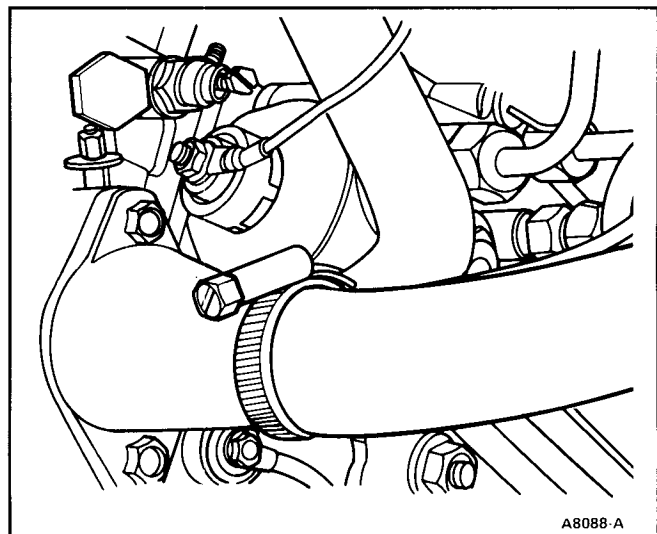

FIG. 54 Fuel Shut-Off Valve Removal
2. Remove nut attaching electrical connector to shut-off valve and remove connector (Fig. 54).
2. Install connector on shut-off valve (Fig. 54). Tighten nut to 4-5 N·m (3-3.5 lb-ft).